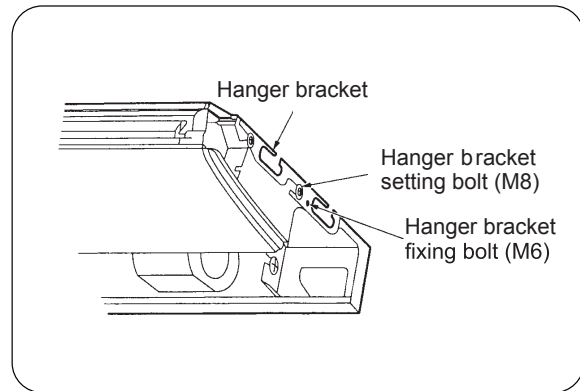

Fig.5
(4) Loosen two hanger bracket setting bolts (M8) on each side for less than 10mm. Remove two hanger bracket fixing bolts (M6) on the rear side. Detach the hanger bracket by pulling backward (Refer to Fig.5)
(8) Screw tightly both hanger bracket setting bolts(M8).(Refer to Fig.5)
(9) Screw tightly both hanger bracket fixing bolts (M6) to prevent the movement of the unit(Refer to Fig.5)